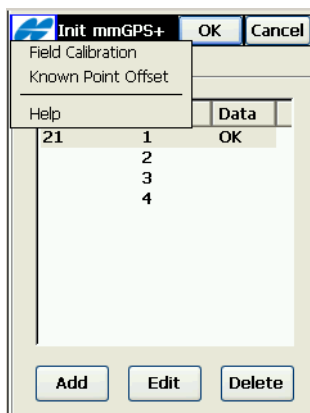

Figure A-13. Open Field Calibration
3. With the controller and sensor connected, tap **Setup GPS ▶ Init mmGPS**. The *Init mmGPS+* screen displays (Figure A-13 on page A-9).
4. On the *Init mmGPS+* screen, tap the Help Icon menu in the upper-left corner of the screen and select **Field Calibration** (Figure A-13). The *Calibration* screen displays (Figure A-14).